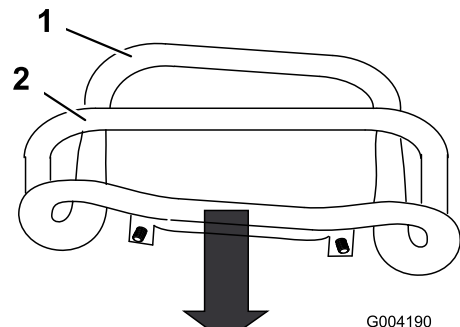

Figure 49
3. Pull straight back on the traction control so the front of the control contacts the reference bar (Figure 49).